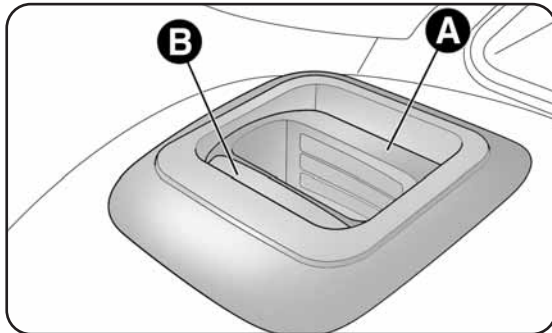

fig. 3
**IMPORTANT** The backrest is correctly secured when the “red band” B-fig. 3 on the backrest lowering levers A disappears. This red band indicates that the backrest is not secured.
*Make sure the backrest is properly secured on both sides (red bands B-fig. 3 not visible) to prevent it from moving forward in the event of sharp braking, which may cause injuries to passengers.*